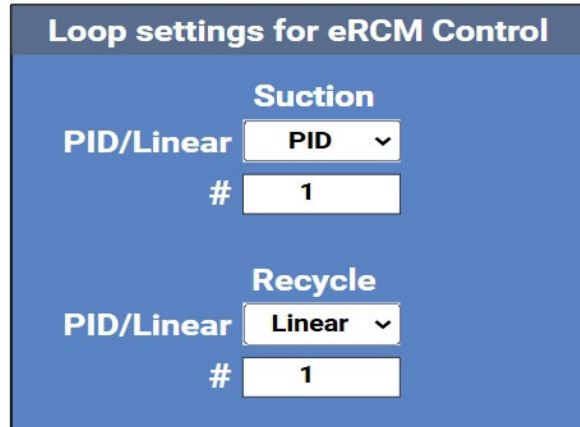

Figure 44
3. In the Loop Settings for eRCM Control section (see Figure 44), configure the settings for suction and recycle: